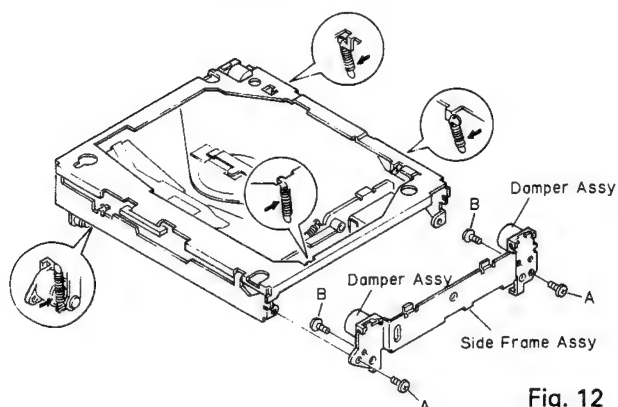

Fig. 12
4. Remove the four springs indicated by arrow. (Fig. 12)
5. Remove the two screws A, and then remove the side frame assy. (Fig. 12)
6. Remove the two screws B, and then remove the damper assy. (Fig. 12)